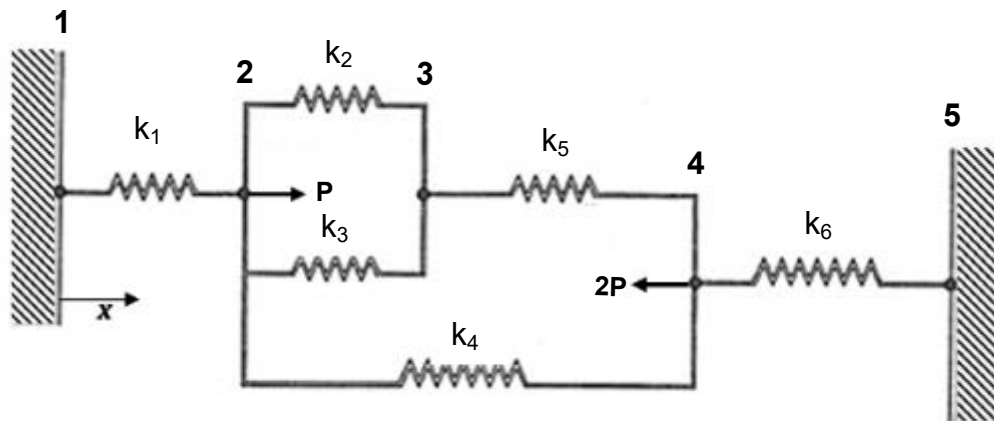

Figure 1: Spring Assembly
For the spring assembly shown in Figure 1, determine the displacements at nodes 2, 3 and 4 and the reactions at nodes 1 and 5. Assume the rigid vertical bars at nodes 2, 3 and 4 connecting the springs remain horizontal at all times but are free to slide or displace left or right. There is an applied force at node 2 (P) of 1 kN to the right.